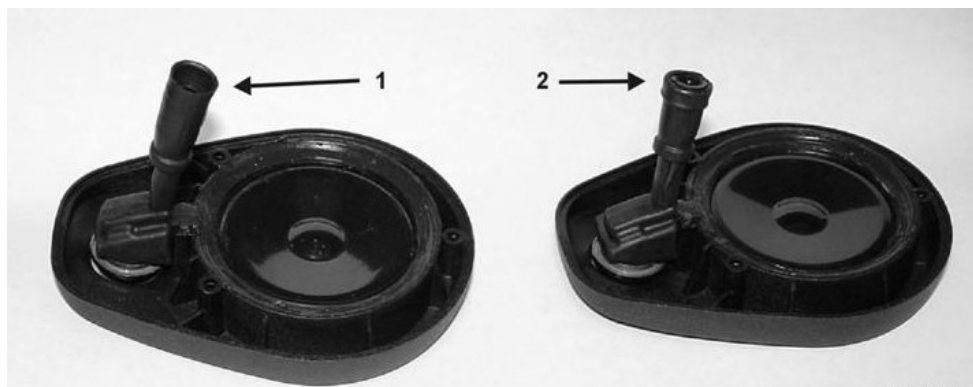

Figure 26: Upper Shell of Speaker Pod Showing Shroud Peeled Back
- Peel back the shroud at the end of the speaker pod plug as shown in Figure 26.